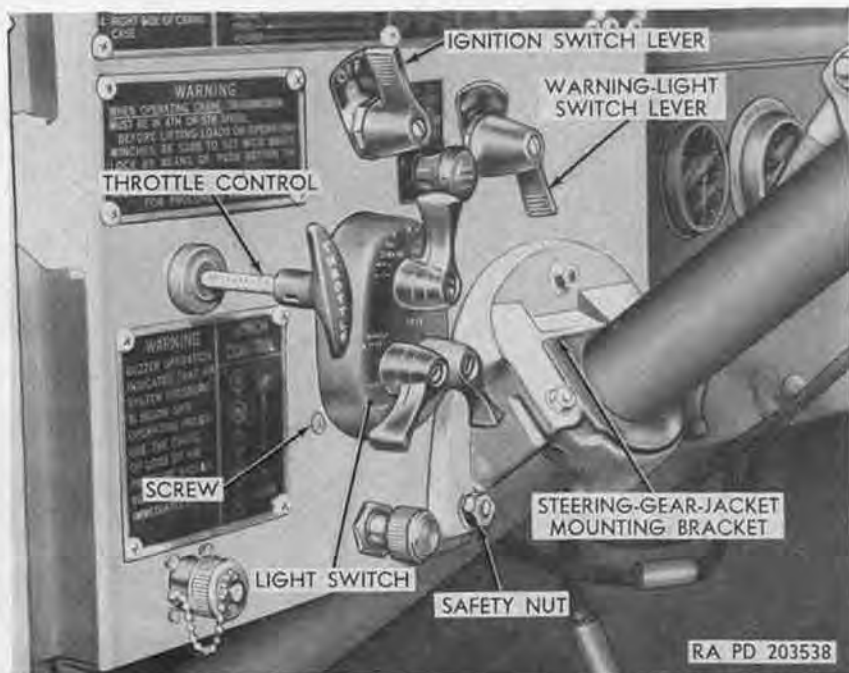

Figure 72. Throttle control in LOCKED-OUT position.
- (c) After the winch begins to pull the load with the engine idling, pull out on the throttle control until the desired winch operating speed, according to the requirements of the load, is attained. Leave the throttle control in the LOCKED-OUT position (fig. 72).